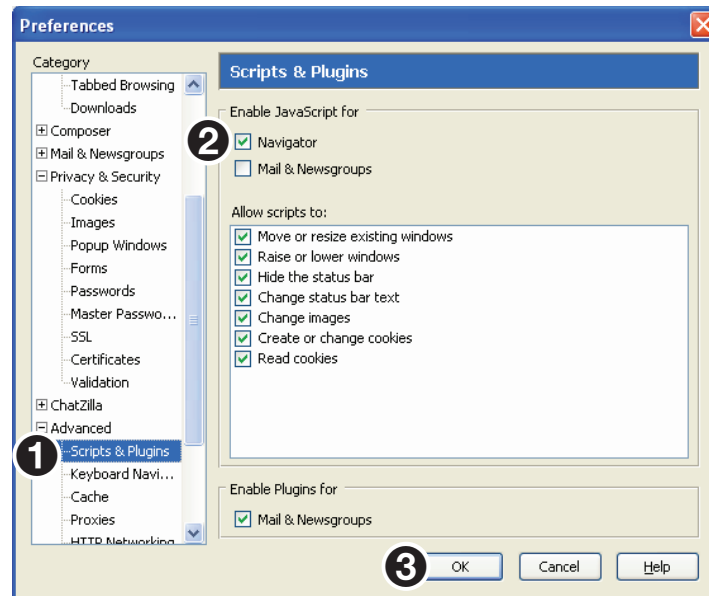

Figure 189. Scripts and Plugins Preferences
3. Ensure that either the **Enable all cookies** or **Enable cookies for the originating web site only** (2) option is selected.
4. To enable JavaScript, go to the **Advanced** category and choose **Scripts & Plugins** (see figure 189, ❶).